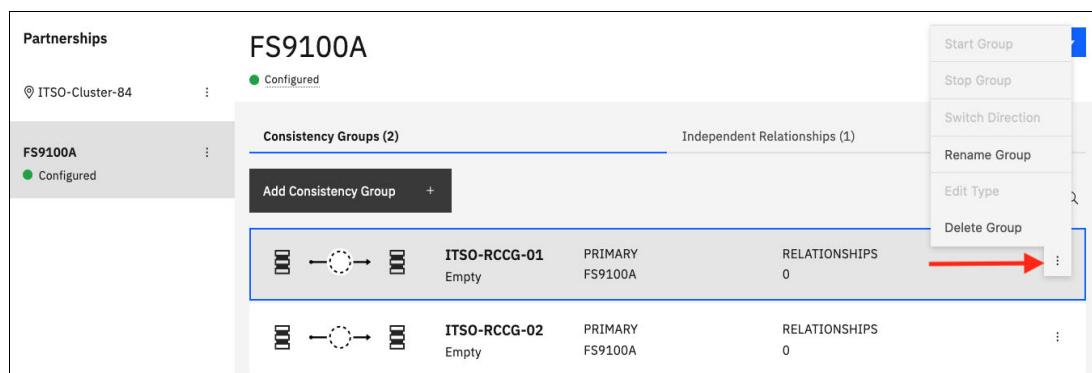

Figure 10-128 Renaming a Remote Copy consistency group
2. Select the target system for the RC consistency group you want to rename, click the three dots on the consistency group to be renamed, and select **Rename Group**, as shown in Figure 10-128.